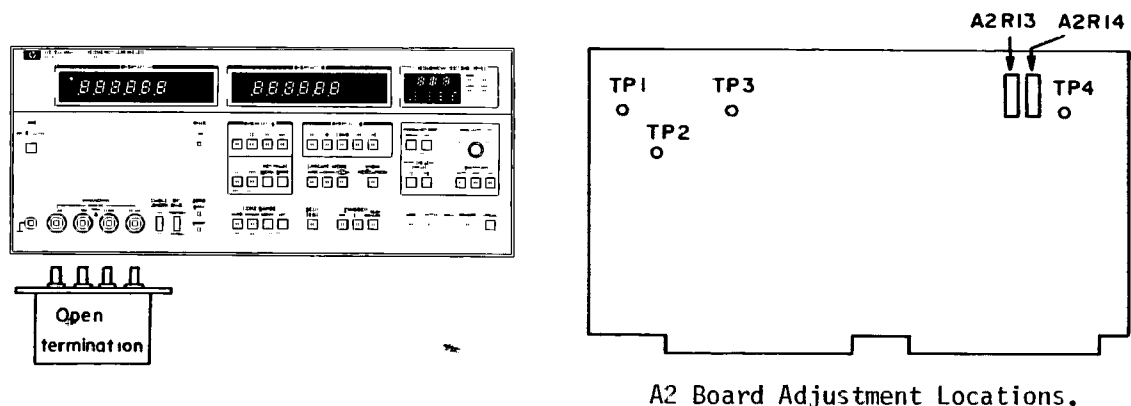

Figure 5-5. Bridge Zero Offset Adjustment Setup.
10. Connect a 500 $\Omega$  resistor in series with the reed relay contacts (see Figure 5-5).